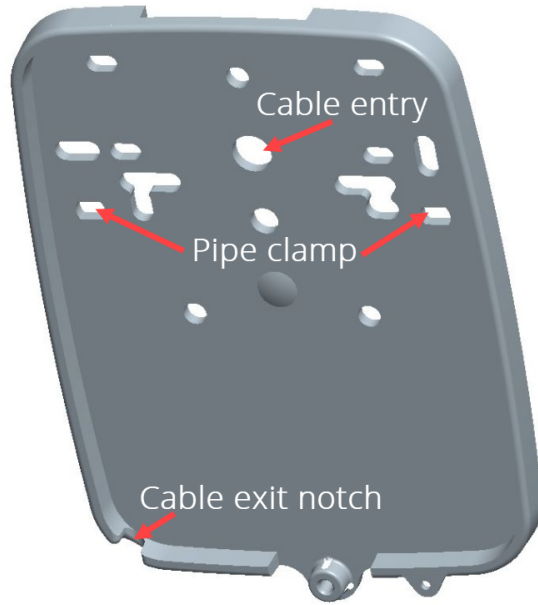

Figure 14 – Mounting Adapter
2. Study Figure 14 – Mounting Adapter and the location requirements, then decide how to install the MIU and mount the adapter with the set screw positioned at the bottom: